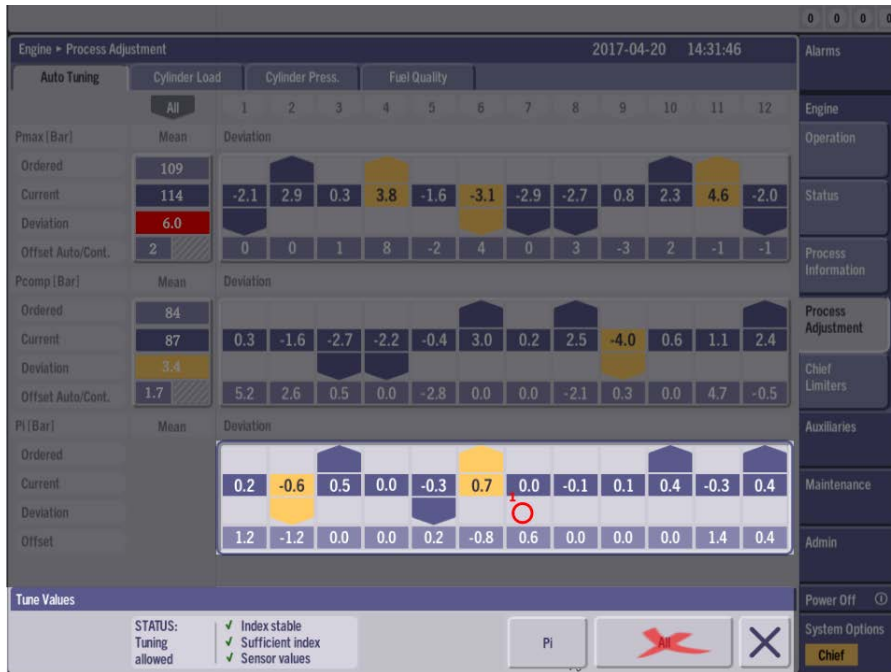
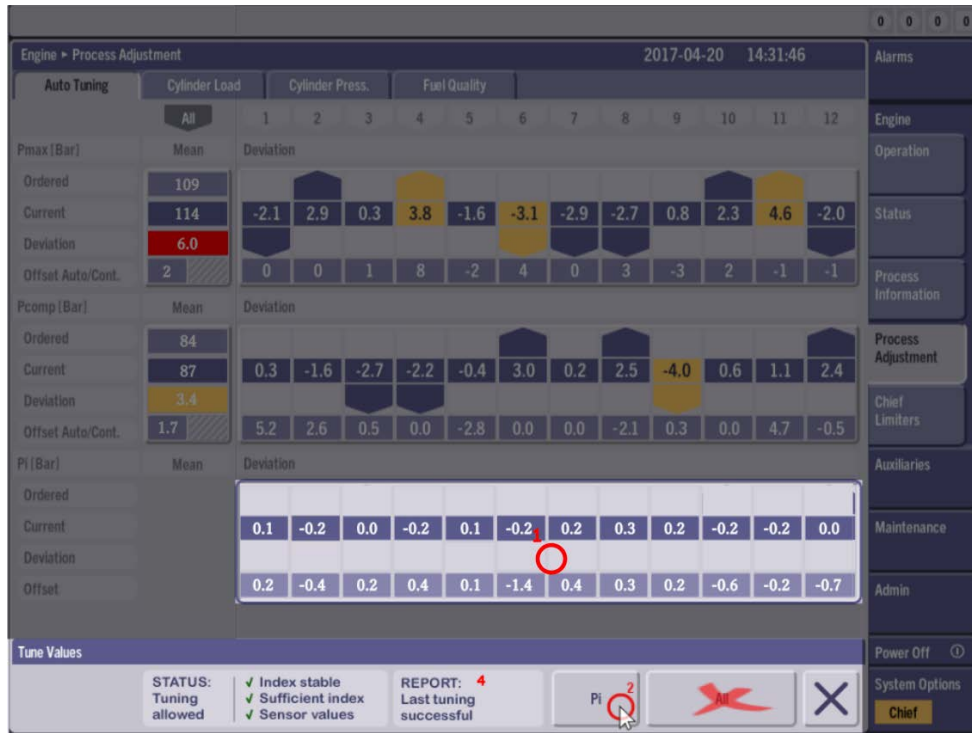

Figure 10 - Balancing P₁ - Step 1: Press P₁ deviation button, Tool bar appear
Figure 13 - Balancing Pi - Step 4: Tuning successful, Deviations corrected
2. Balancing of P_i (Figure 10 to Figure 13)